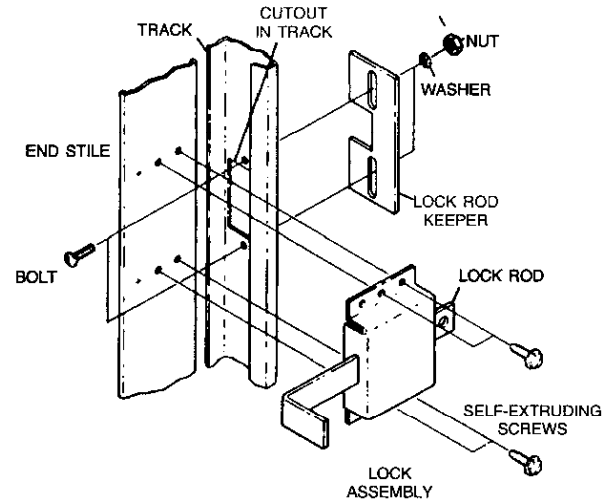

Figure 13
1. Center lock rod in track cutout. See Figure 13.